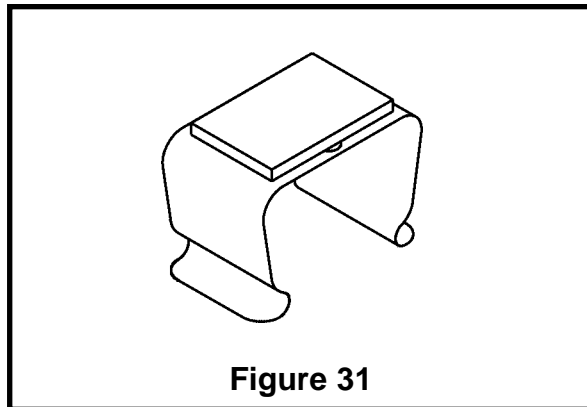

Figure 31
- Peel the backing off of one side of the 1/2" wide, double-sided tape and stick it to the battery clamp as shown in Figure 31.